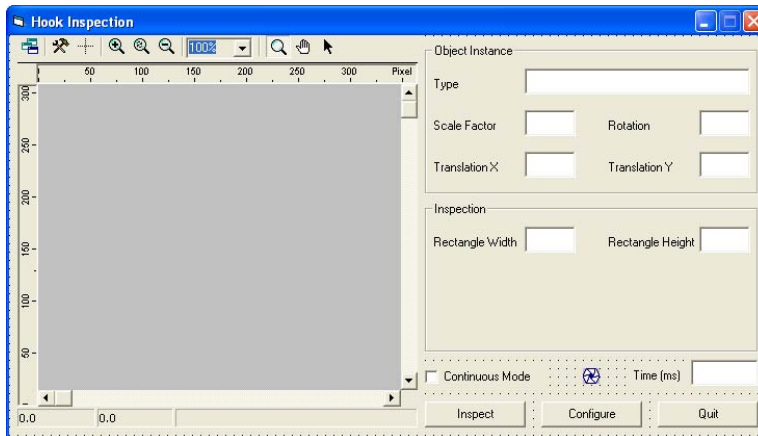

Figure 63 Visual C++ Dialog for Tutorial 3
1. On your application dialog, add two edit boxes. Name the first one **IDC_EDIT_WIDTH** and the second **IDC_EDIT_HEIGHT**. Also add a group box and proper labels for your text boxes. Set everything to appear as illustrated in Figure 63.